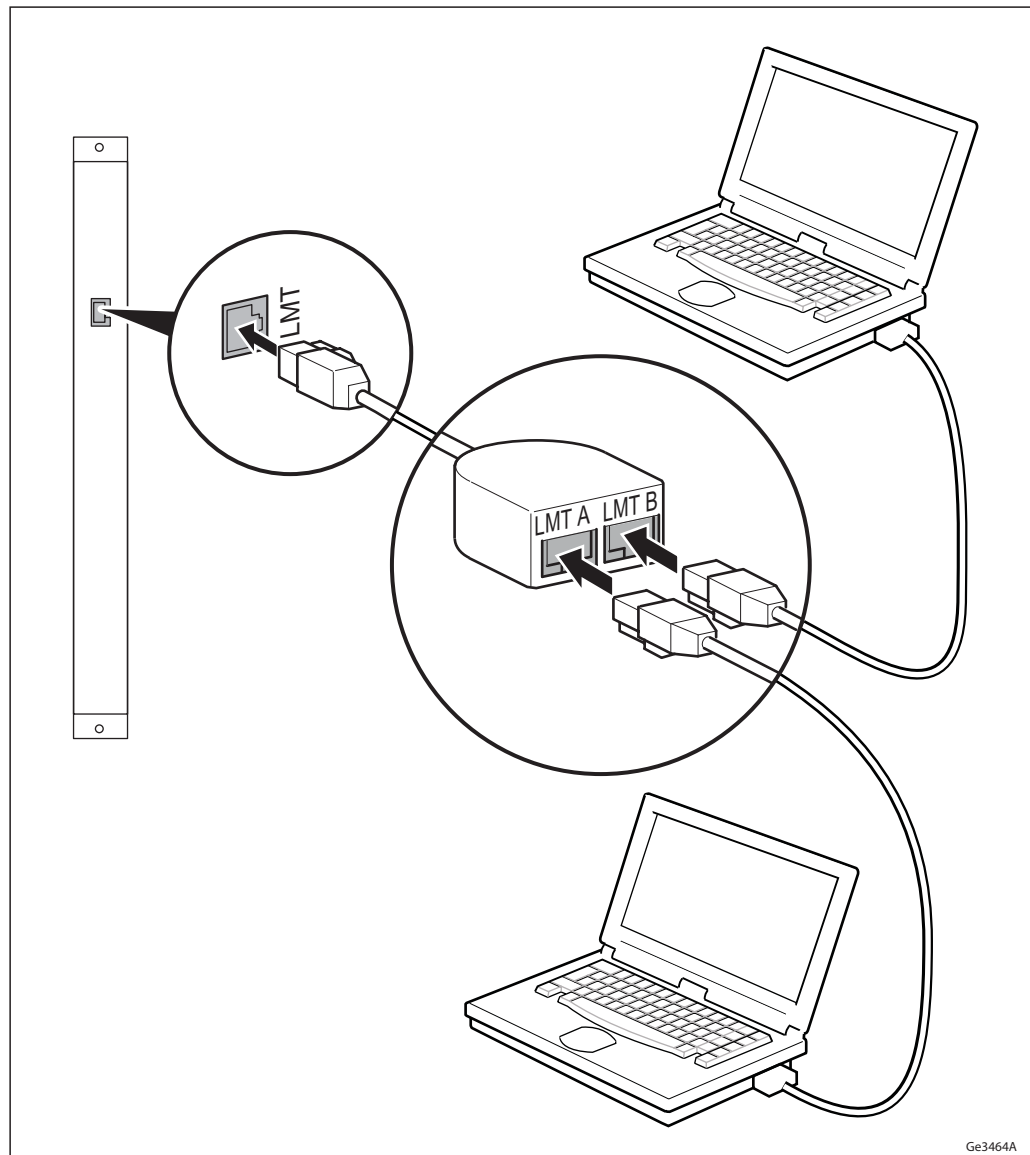
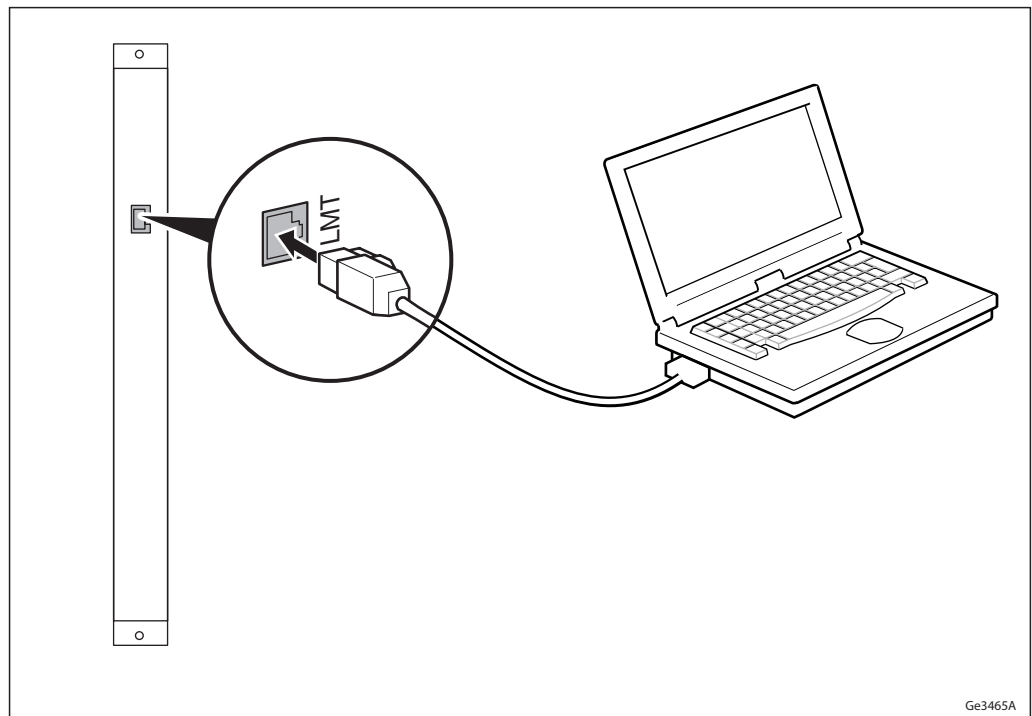
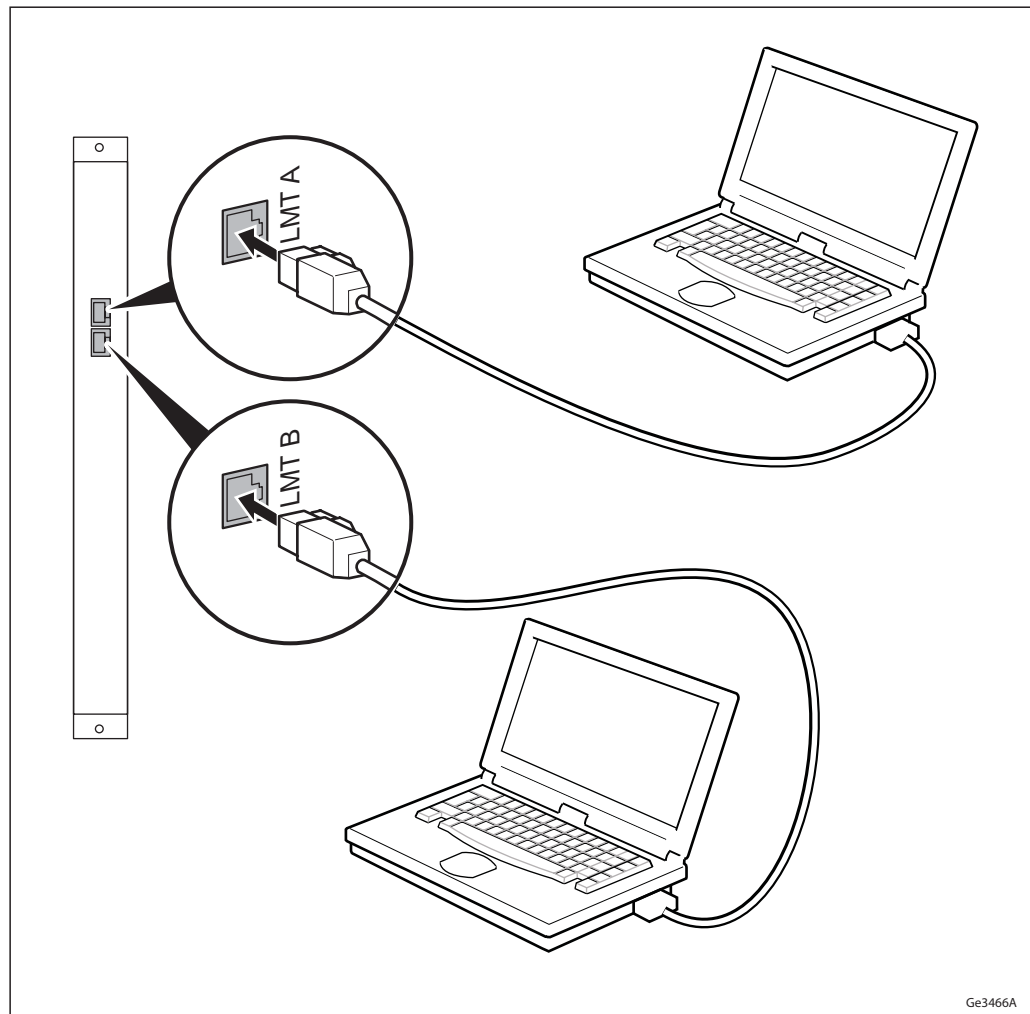
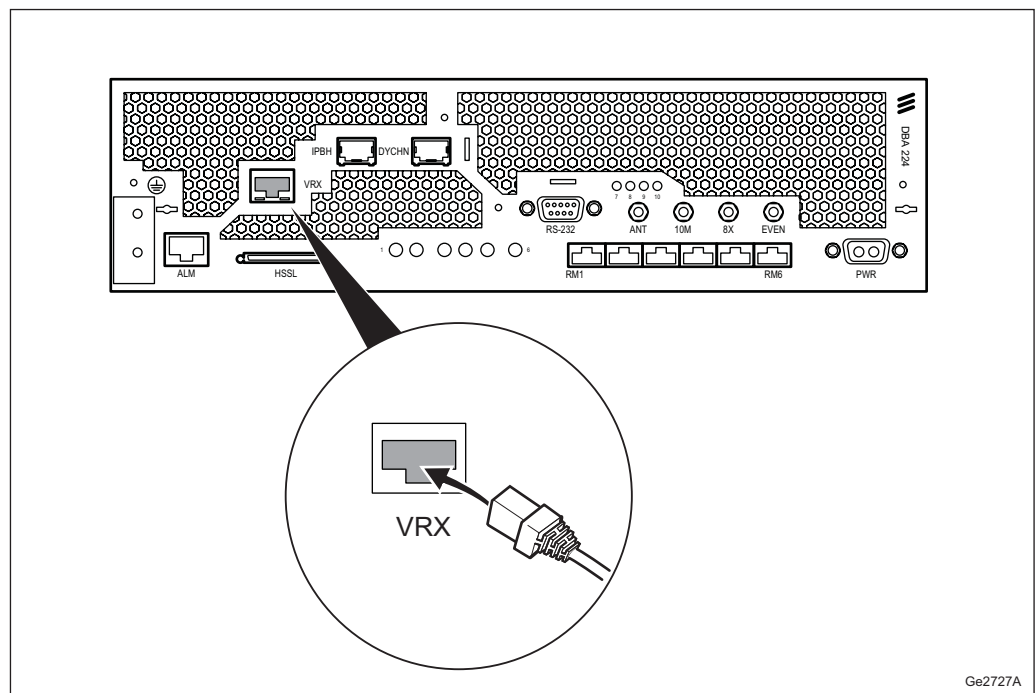

Figure 7 Connecting to the Client, DU with LMT Port. Accessing LMT A and LMT B using an LMT Splitter Cable.
Figure 8 Connecting to the Client, DU with LMT Port. LMT B by Default.
Figure 9 Connecting to the Client, DU with LMT A and LMT B Ports.
Figure 10 CDMA: Connecting the Vortex cable to the VRX port on DBA.
For initial configuration LMT A is used as shown in Figure 9. If the DU only has one LMT port, an LMT splitter cable is used to access LMT A, as shown in Figure 7.
For site LAN access LMT B is used as shown in Figure 9. If the DU only has one LMT port, that LMT port is configured as an LMT B port by default, see Figure 8. The LMT B can also be accessed via the LMT splitter cable as shown in Figure 7.
2. Connect the Local Maintenance Terminal cable to the DU as shown in Figure 7, Figure 8, and Figure 9, depending on the scenario. For CDMA: Connect the Vortex cable to the DBA as shown in Figure 10.